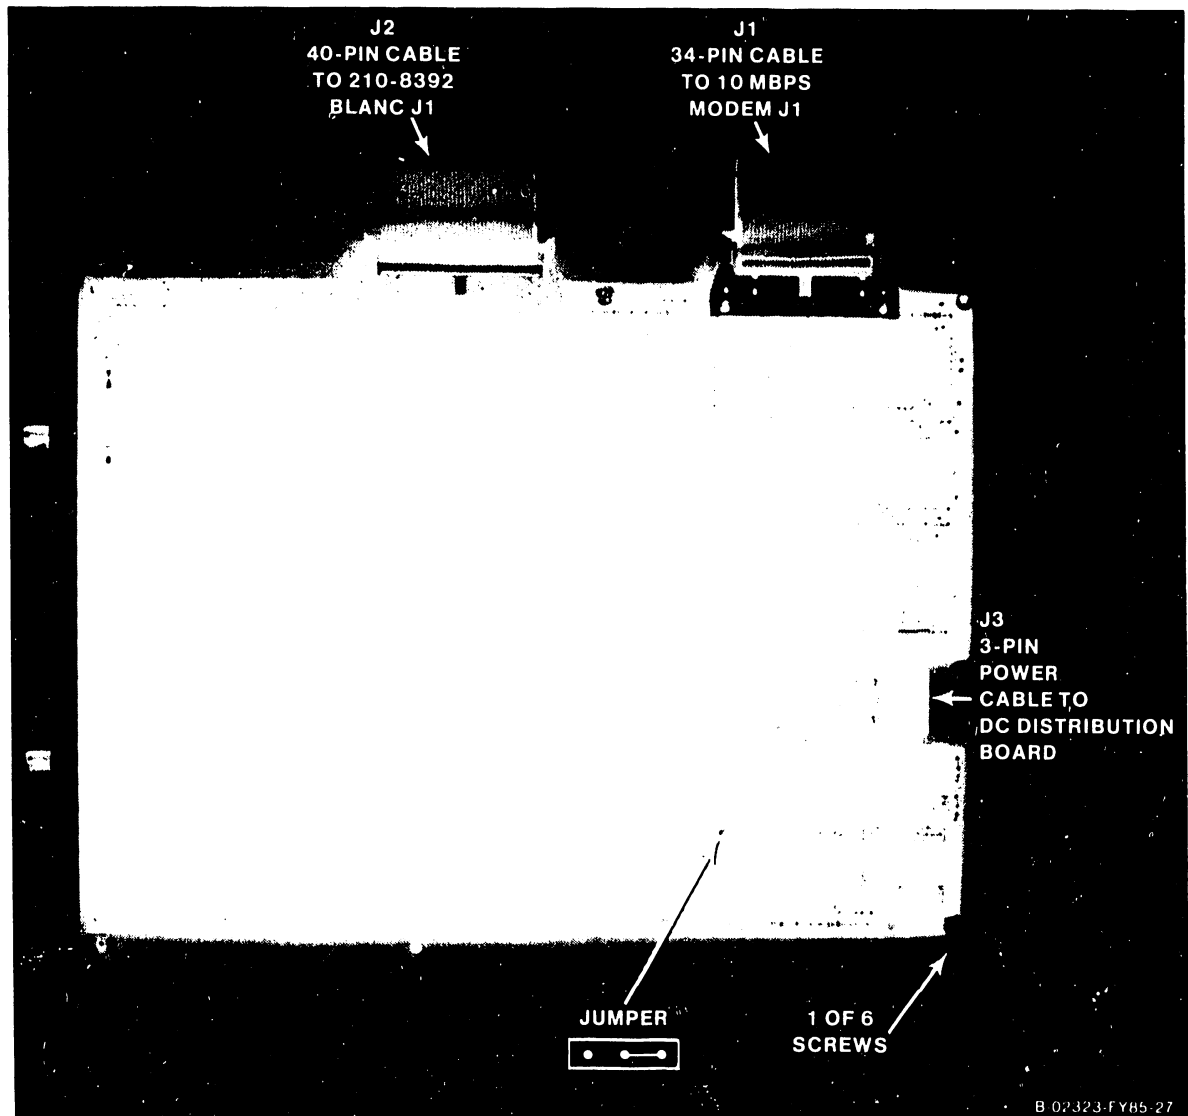

Figure 7-34. 23V79 CIU CAB Board
1. The 279-0722 CIU CAB board/Single Channel 10MBPS RF Modem must be replaced as an entire assembly. The 210-8391 CIU CAB board (figure 7-34) is mounted on top of the Single Channel modem (figure 7-35).
8. After checking the 3-position jumper shown in figure 7-34, install the new assembly.